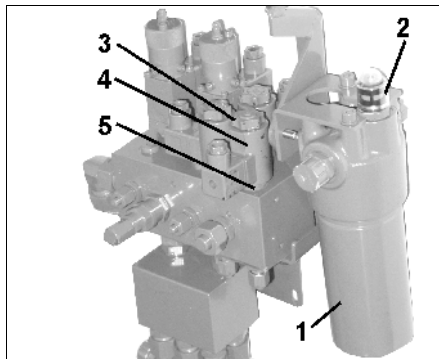

Fig. 63
During operation the function of the hydraulic oil filter (Fig. 63/1) can be checked on the control block.
Indication in the check window (Fig. 63/2):
- Unscrew solenoid cap (Fig. 63/3).
- Remove magnet coil (Fig. 63/4).
- Screw out the valve rod (Fig. 63/5) with valve seat and clean with compressed air or hydraulic oil.